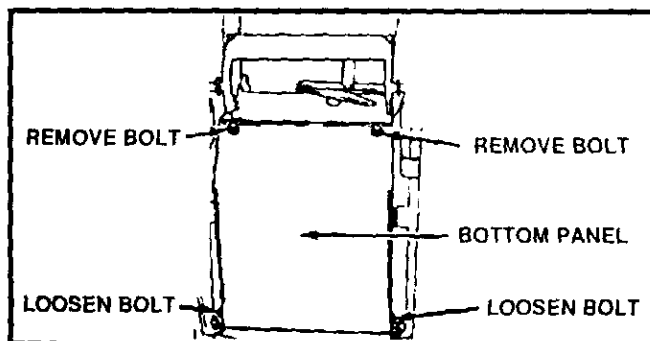
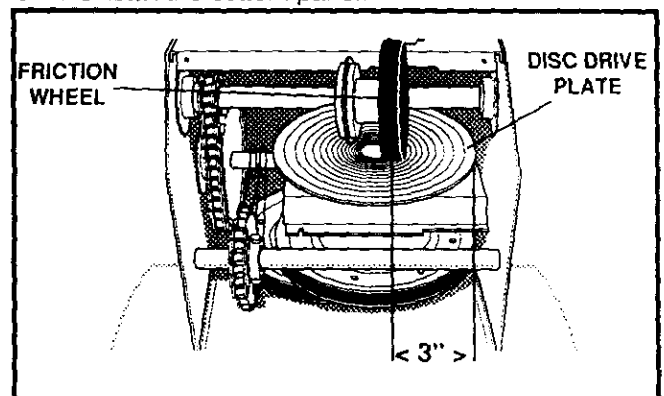

FIG. 10
FIG. 11
- Remove the bottom panel (See FIG. 10).
- Position the shifter lever in first (1) forward gear.
- Note the position of the friction wheel on the disc drive plate. The right outer side of the disc drive plate should be 3" from the center of the friction wheel (See FIG. 11).